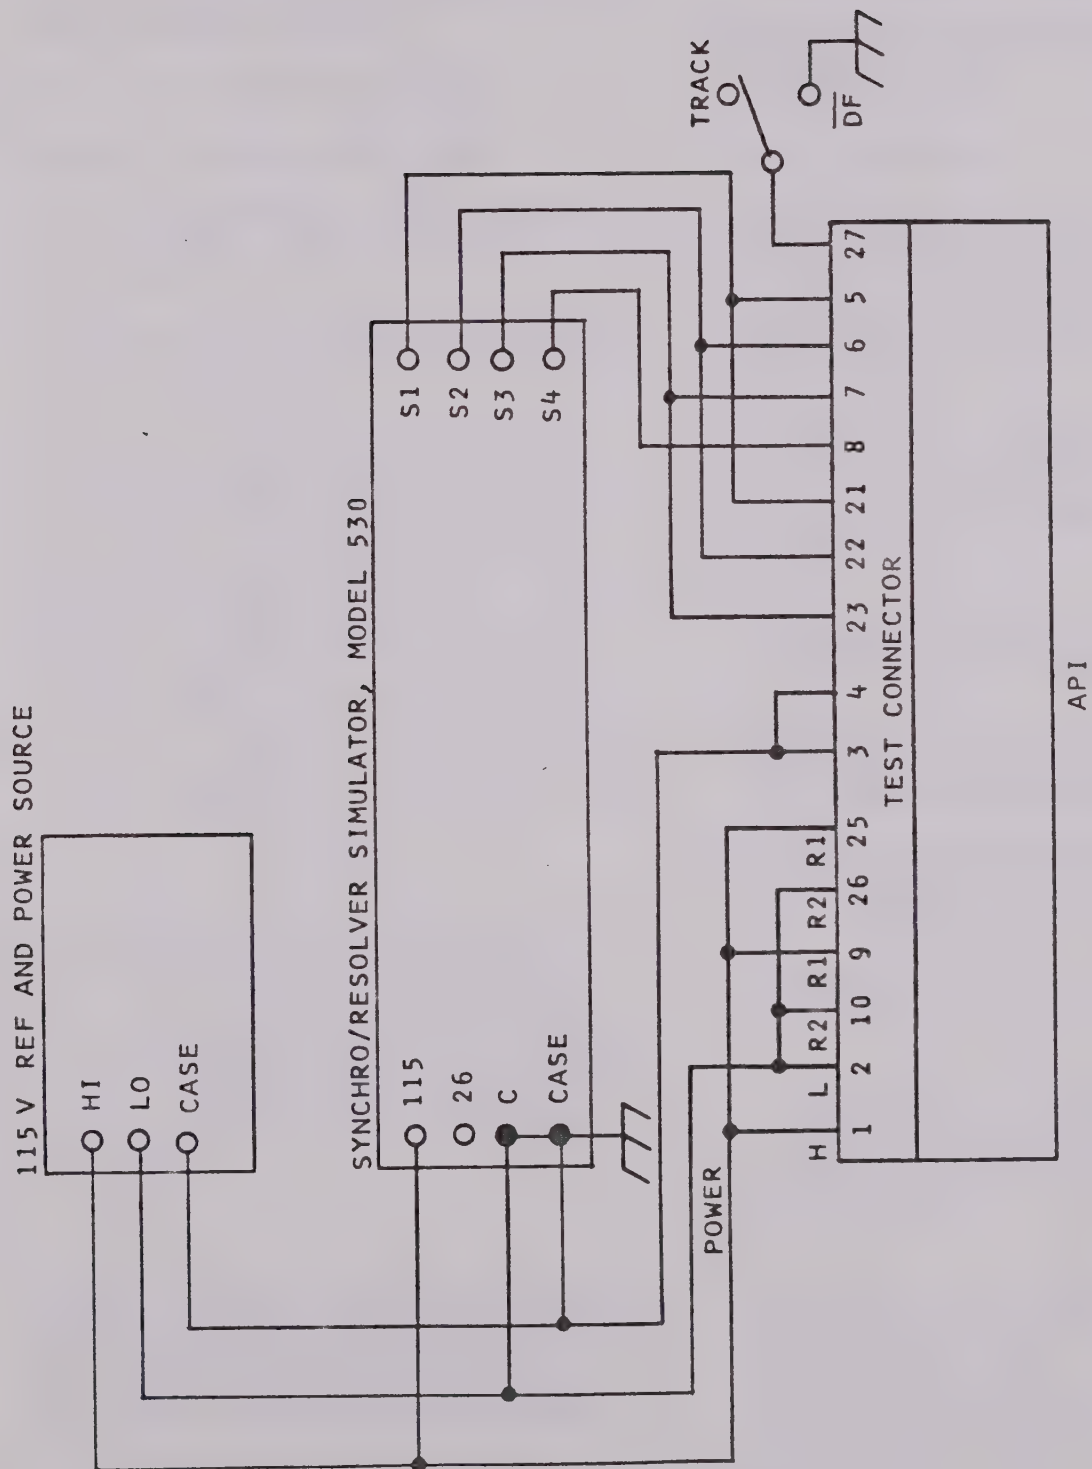

Figure 5-1. Test Set-up
- Wire up the test connector and connect the equipment as shown in figure 5-1.